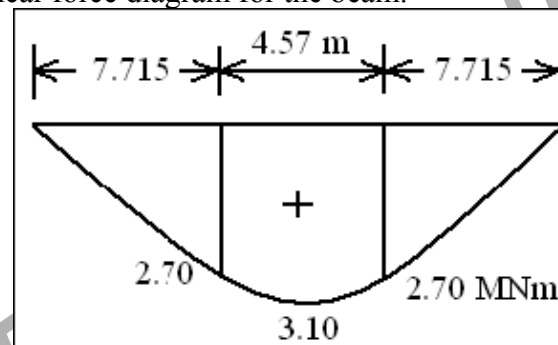

figure 3
6. The following figure 3 indicates the Bending Moment diagram. Develop the loading and Shear force diagram for the beam. [16]